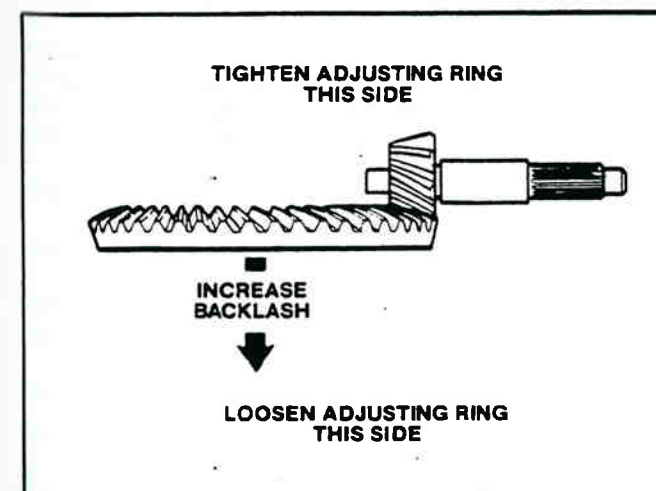
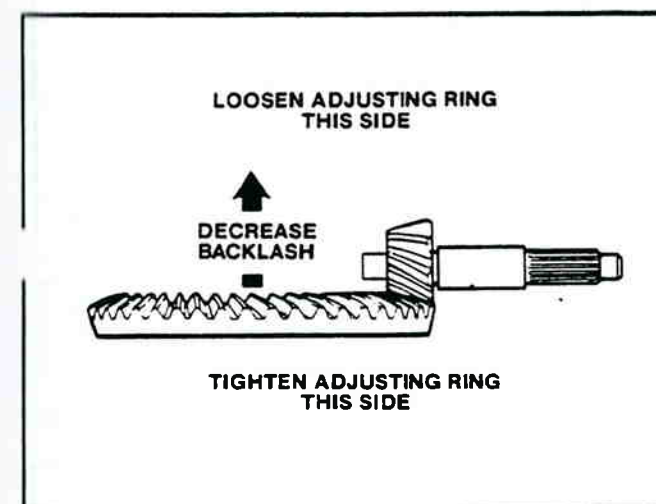

Figure 2-84. Adjusting For Increased Backlash.
Figure 2-85. Adjusting For Decreased Backlash.
NOTE: Backlash is increased by moving the ring gear away from the drive pinion (Figure 2-84). Backlash is decreased by moving the ring gear toward the drive pinion (Figure 2-85).
6. Loosen one bearing adjusting ring one notch, then tighten the opposite ring the same amount (see Figures 2-84 and 2-85).